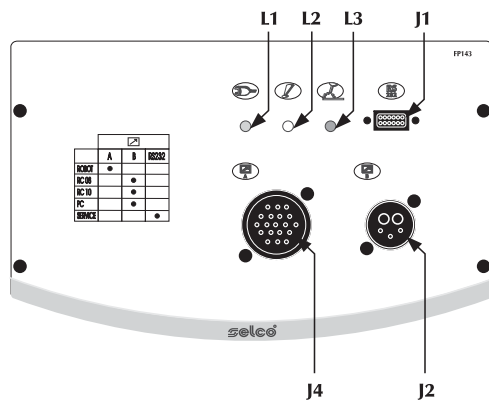

Fig.3
2.1.3 Front control panel FP143 (Fig. 3)